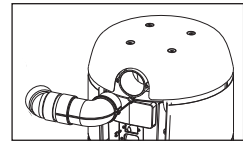

Figure 6b
**NOTE:** One elbow must be installed if the muffler or the HEPA filter is not used, (refer to Figure 6b).